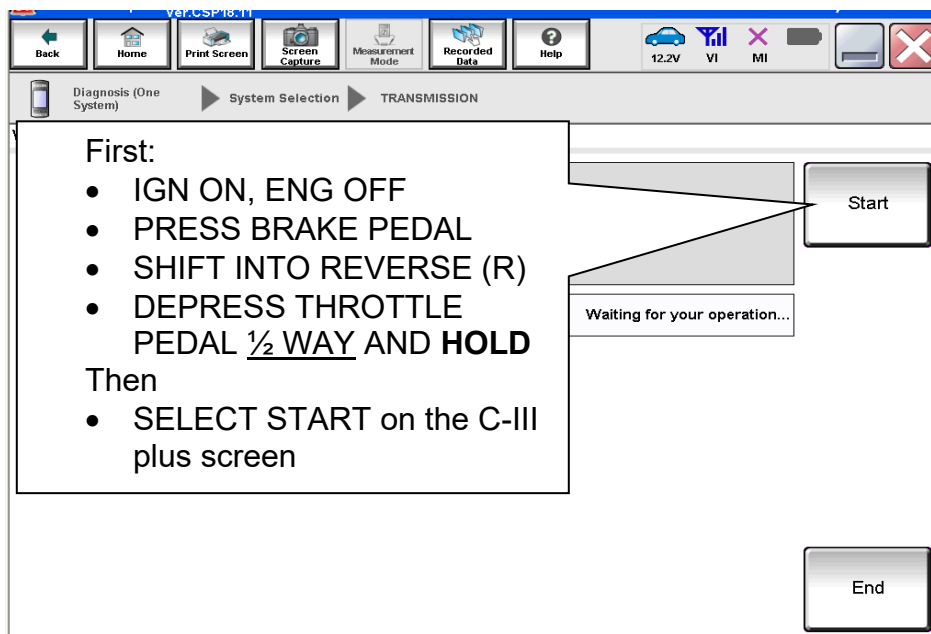

Figure10
18. Before selecting **Start**, follow the directions in Figure 10.